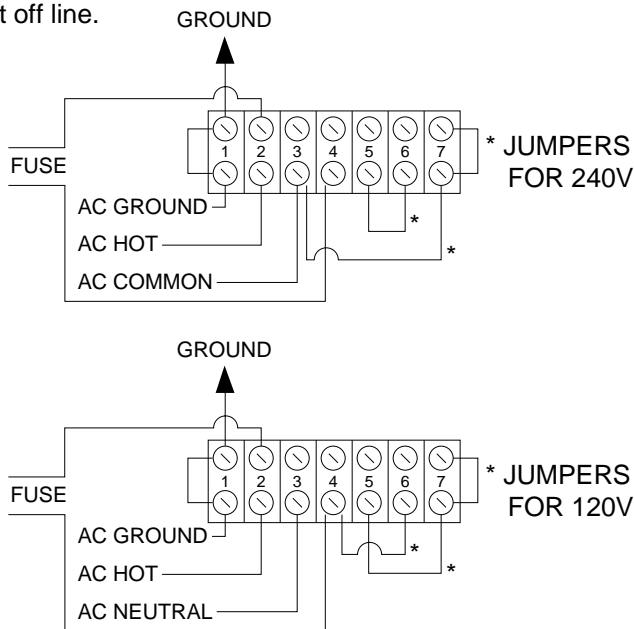

Fig. 2
4. Refer to wiring diagram (Fig. 2). Primary power should be supplied to the unit through the bushing located on the left side of the box. It is strongly recommended that power be supplied from a separate disconnect, **NOT** by plugging in to a wall socket. The Model 1033 is a continuous monitor. If a wall socket is used, there is a risk that the unit will inadvertently be unplugged putting it off line.